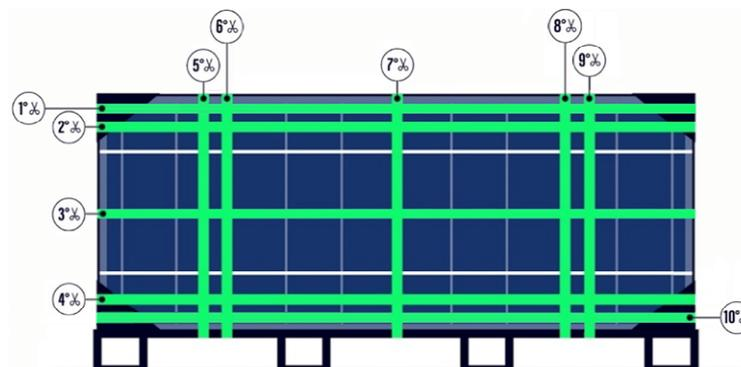

Figure 18: Positions of internal straps.
- c) Cut nine of the internal straps. First cut the horizontal straps #1, #2, #3, #4 (Figure 18), then cut the vertical straps #5, #6, #7, #8, #9, in any order. Do not cut strap #10 until step e).